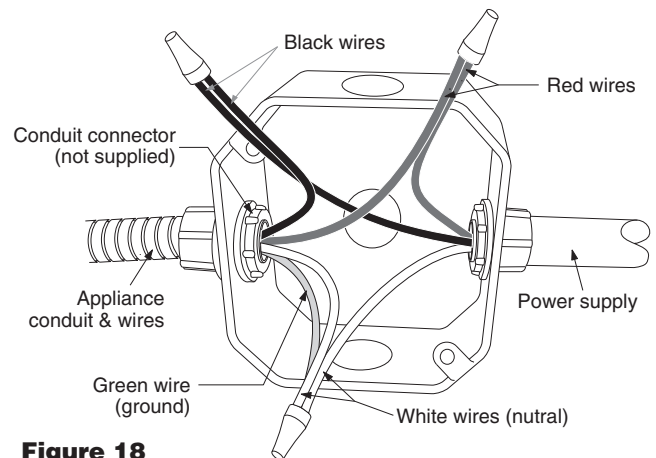

Figure 18
- 2 In the junction box connect the appliance and residence cable wires as shown in Figure 18.